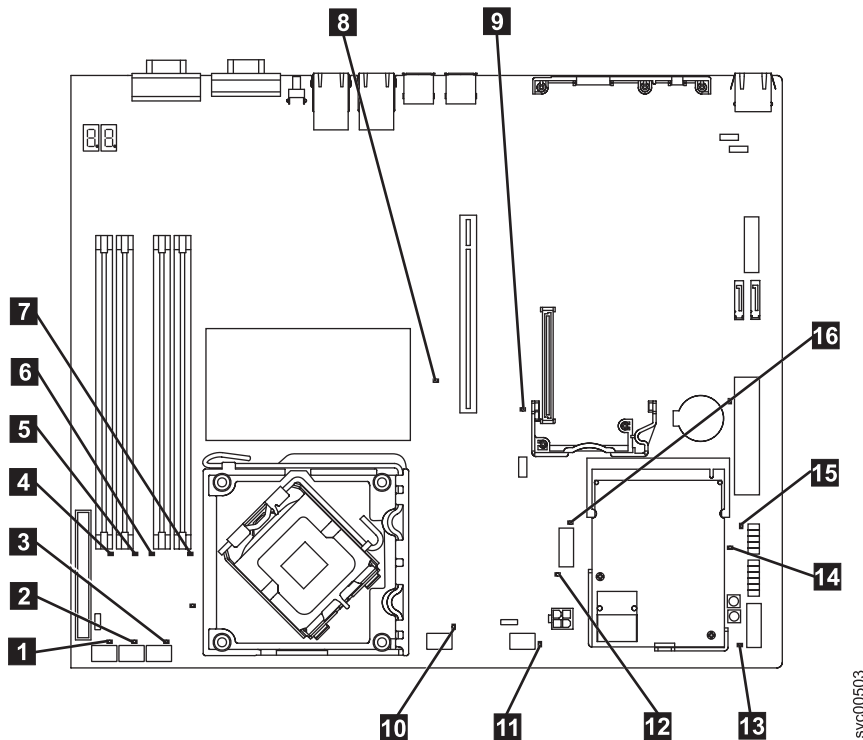

Figure 84. SAN Volume Controller 2145-8A4 system board LEDs
- Remove the node from the rack and remove the top cover. Reconnect the power cable, which is still connected to the 2145 UPS-1U, to the node. **Is the standby power LED that is on the system board illuminated?** Figure 84 on page 219 shows where the diagnostics LEDs are located on the system board.